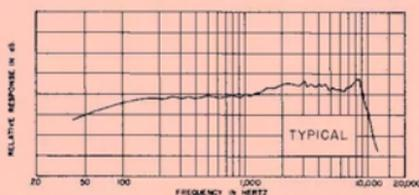

FIGURE 1
- Frequency Response:** 40 to 11,000 Hz (see Figure 1)